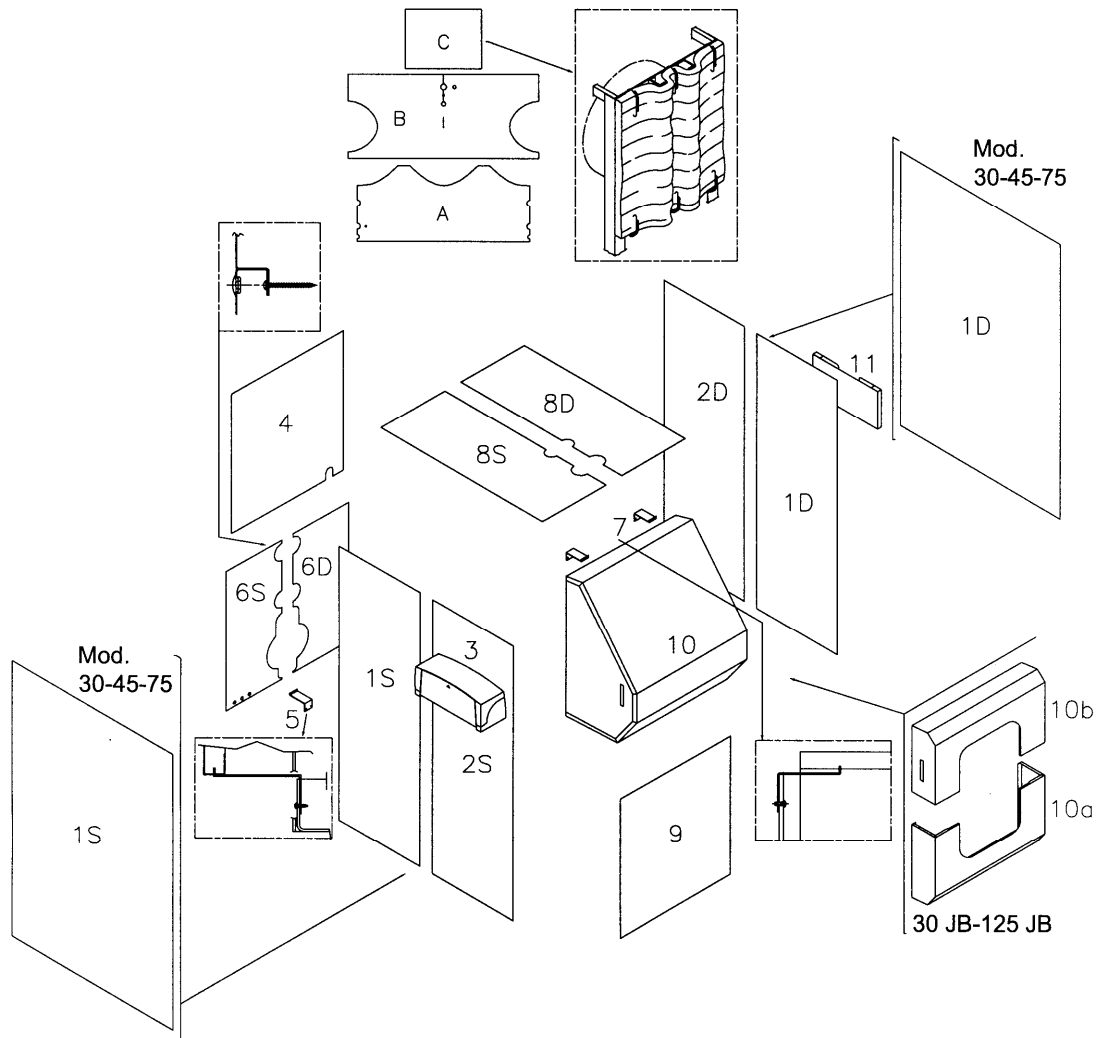

Fig. 4
- Wrap glass wool (A) around the shell and attach with the clips.
- Wrap glass wool (B) around the upper cylindrical boiler body without covering the shaft/bulb holder located near the flanged outlet pipe and fix in position with the clips supplied.
- Then insulate the rear boiler plate, attaching the wool (C) to the springs on the edge of the plate (see figure).
5.2 BOILER CASING MOD. 90 - 120 (Fig. 4)
- Unwind the thermostat capillaries, fit the control panel (3) to the side (RH or LH), fastening with the screw, then insert the bulbs in the pocket. Hook the upper rear panel (4) to the sides.
- Fasten the support bracket (5) to the frame base L profile; insert the cable grommets in the panel holes (6S), hook the panel to the side panel and feed through the supply cable, then connecting the cable to the junction box. Hook on the panel (6D) and then fasten both using the screws at the top, and close the holes with the specific plugs provided (see figure).
- Fix the front/upper panel supports (7) to the boiler plate and put on the upper panels (8S) and (8D). Hook on the front/lower panel (9) and the front/upper panel (10). For all models, hook the front/central panel (10a) and the front/upper panel (10b). Finally, screw the document holder (11) on to the opposite side of the control panel (excluded mod. 30/45/75).